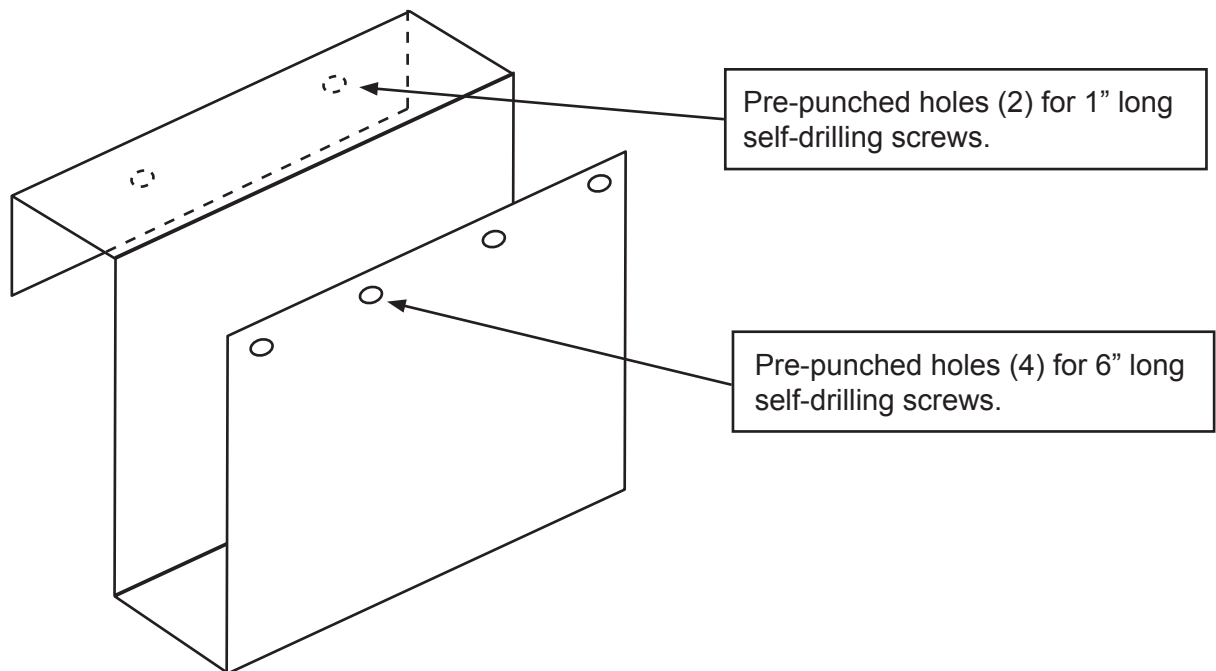

Figure 1 - Wind Load Bracket
2. Before setting the unit on the curb, install the brackets on the curbs as shown in Figure 1.
3. Using the $\frac{1}{4}$ " x 1" long self-drilling screws provided, secure the bracket to the approved curb. See Figures 1 and 2. There will be (2) 1" long self-drilling screws required per bracket.
6. At the location shown below, 1.15" below the top of base-rail, install the provided 6" long self-drilling screws through the bracket, base-rail, wood nailer, and curb. See Figures 1 and 2. There will be (4) 6" long screws required per bracket.